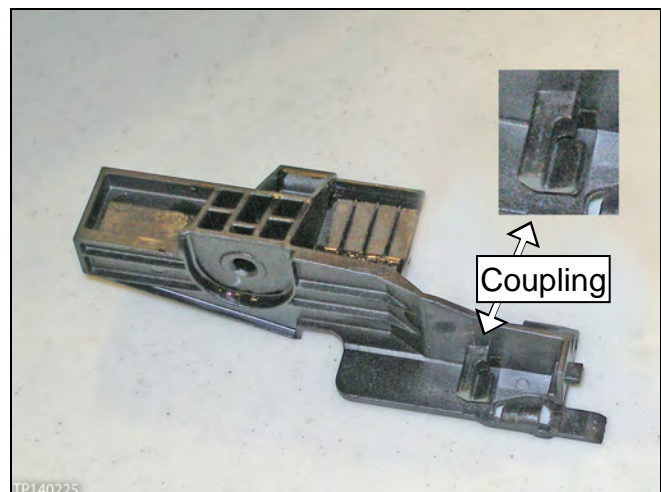

Figure 7
12. Inspect the shade bases, including the sunshade stay couplings (see Figure 7).